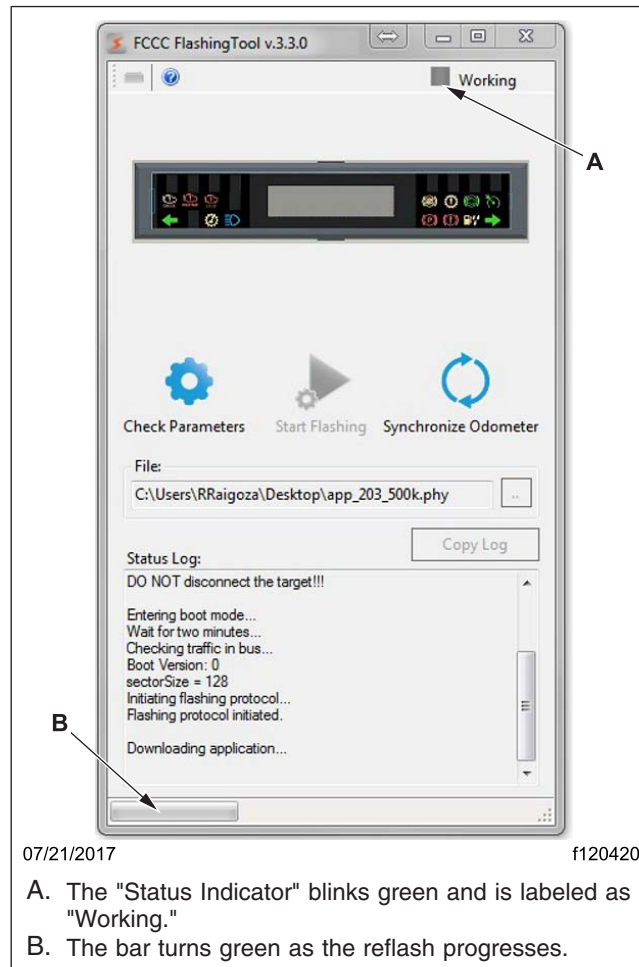

Fig. 13, Reflash Tool is Working
22. Select the "Start Flashing" button to begin the reflash process. The "Status Indicator" will blink green and be labeled as "Working" and the bar at the bottom of the screen will slowly turn green. See Fig. 13. When the flash tool is working, the application buttons are disabled with the exception of the "About" button. The application can not be closed until the reflash process is finished.